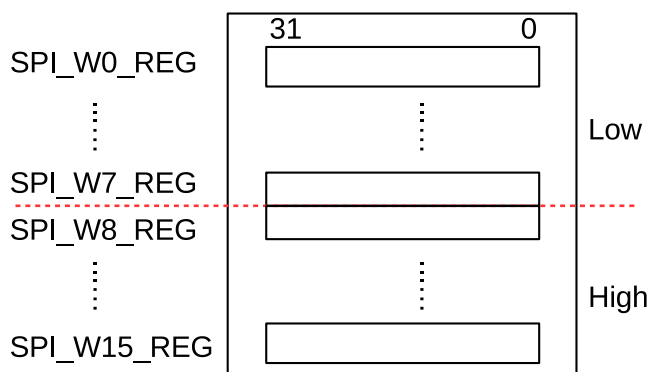

Figure 27.5-1. Data Buffer Used in CPU-Controlled Transfer
GP-SPI2 provides 16 x 32-bit data buffers, i.e., SPI_W0_REG ~ SPI_W15_REG, see Figure 27.5-1.
- **SPI Buffer:** `SPI_WO_REG ~ SPI_W15_REG`, see Figure 27.5-1. The data transferred in CPU-controlled mode is prepared in this buffer.